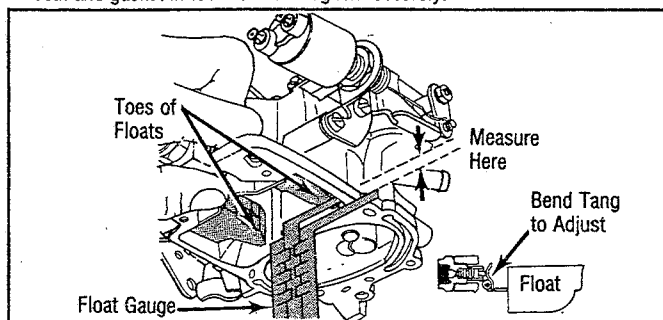

Fig. 1 Float Level Adjustment
1. Assemble gauge included in kit. Calibrate to "B" scale. See Fig. 1.